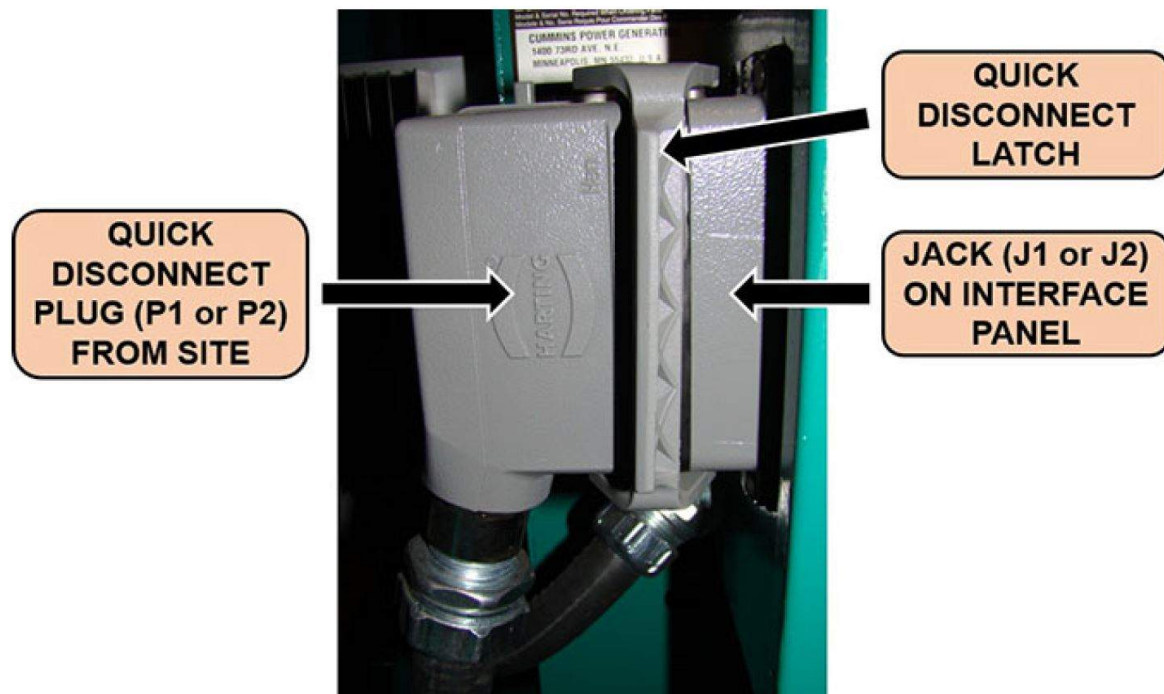

Figure 1-16. Wing 1 DEU Interface Panel Jack and Plug System.
- Push/pull circuit breakers (CB)-1 and CB-2.
TBA is where all direct current (DC) voltage wiring interfaces between the site and the DEU, which consist primarily of signals to and from the MPP. Plug P1 is the quick-disconnect that interfaces with jack J1 on the panel. Figure 1-16 illustrates the quick disconnect plug and jack system used on all Wing 1 DEUs.